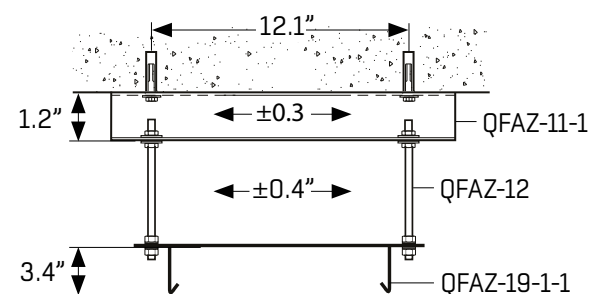

FIGURE 12
- 1) Affix the suspension bracket to the ceiling. Then, thread the suspension rods up through the suspension bracket and down into the low-build fastening bracket and tighten the nuts with a wrench. (See **FIGURE 12**)